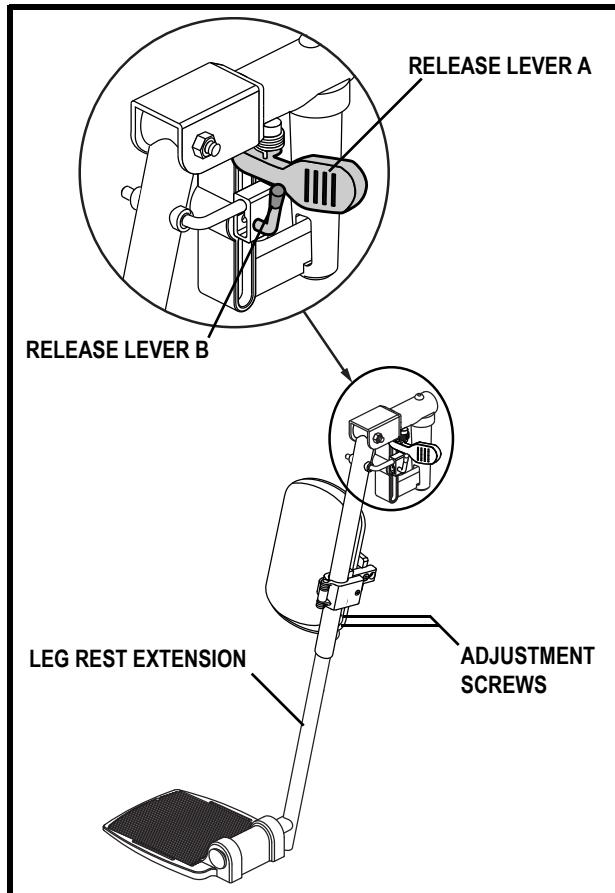

Figure 23. Elevating Leg Rests
1. Push down release lever B. **See figure 23.**
1. Remove the two adjustment screws from the side of each leg rest extension. **See figure 23.**